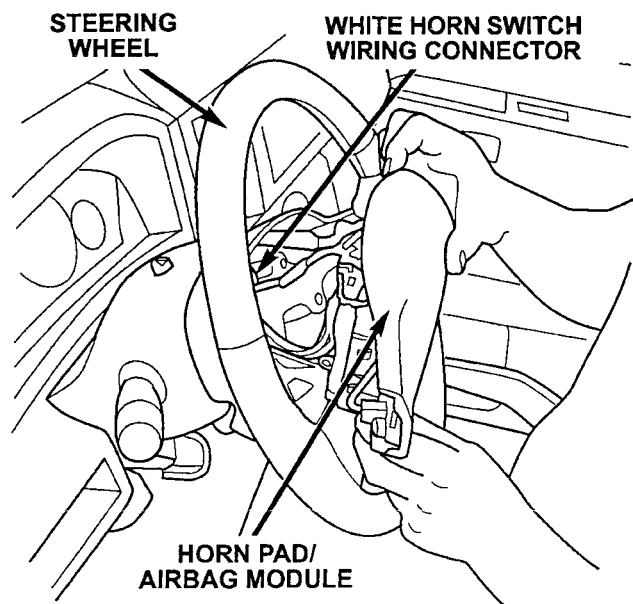

Figure 2
4. Disconnect the white horn switch wire connector from the clock spring (Figure 2).
12. Connect the white clock spring horn switch wiring harness connector to the clock spring (Figure 2).